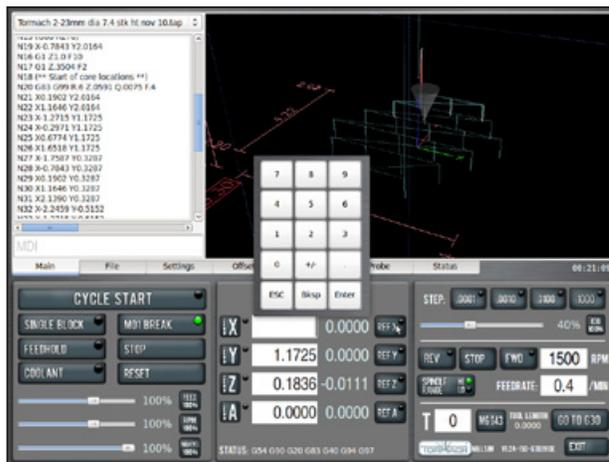
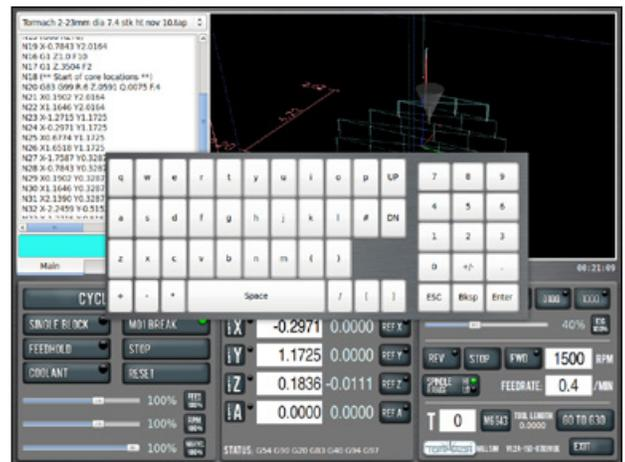

Figure 6.16
Figure 6.17
**Enable Soft Keyboard** – If the mill is equipped with an optional Touch Screen LCD Monitor (PN 35450), this provides a soft keyboard for DRO and MDI entries (for initial setup and calibration, refer to Touch Screen Kit documentation). When the mouse is clicked in a DRO field, a numeric keypad opens on screen (see Figure 6.16). When the mouse is clicked in the MDI Line, the *Save* or *Save As* fields, or the conversational title DRO, a soft QWERTY keyboard opens on screen (see Figure 6.17). Press *Enter* to accept the value that has been typed. Press *ESC* to exit the on-screen keypad and restore the previous value.